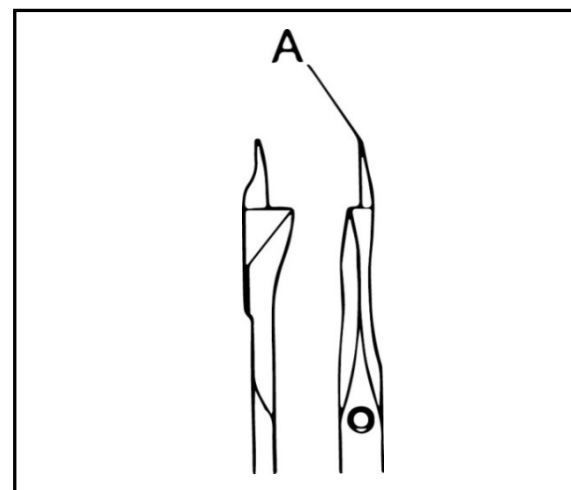

Fig. 36
Align the point A of the lap former ① with the center point of four needles. (Fig. 36)